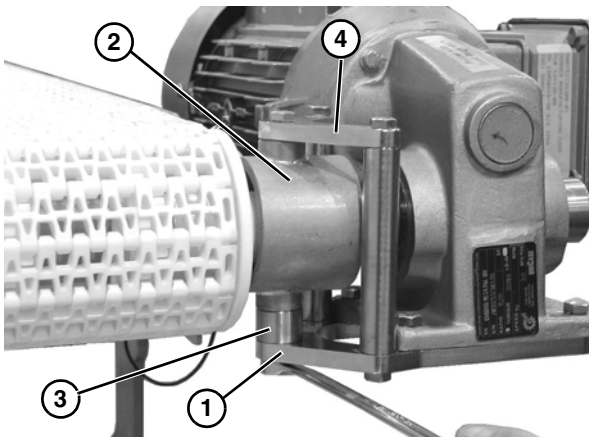

Figure 66
2. Remove the lower gearhead mounting bar (Figure 66, item 1) from the motor mounting bracket (Figure 66, item 2). Remove spacer (Figure 66, item 3).
3. Remove the upper gearhead mounting bar (Figure 66, item 4) from the motor mounting bracket (Figure 66, item 2).